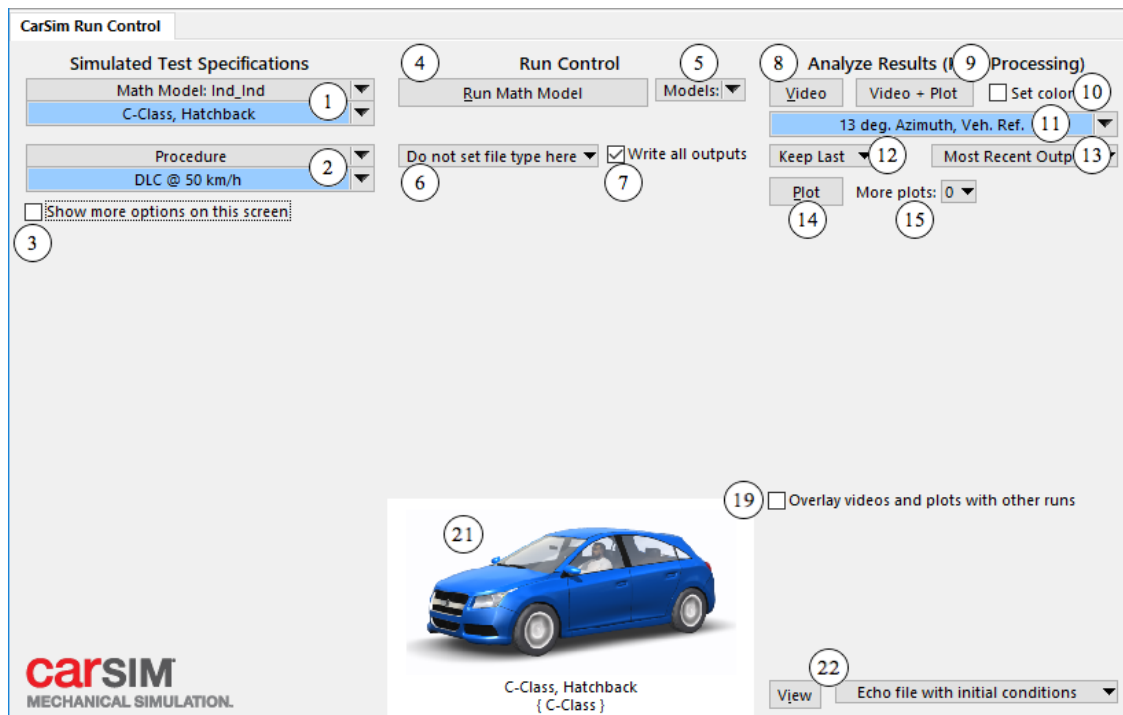
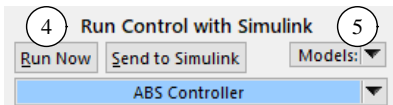

Figure 3. The Run Control screen (simplified view).
Figure 4. Run buttons when working with Simulink.
The **Run Control** screen has several possible appearances depending on the settings you make. Figure 3 shows a typical display with only the basic controls visible.
- ④ Run button(s). The appearance of this part of the screen depends on the type of **Models** link ⑤. There may be multiple buttons, and usually one of them will have the word “Run” in the name. For example, there is a single button **Run Math Model** shown if no link is made (Figure 3). Click it to run the simulated test.
Different buttons might be shown if a **Models** link is made ⑤. For example, Figure 4 shows the buttons displayed when a link is made to a dataset from the **Models: Simulink** library.
If a link is made, the linked dataset appears just under the run buttons (Figure 4). The run buttons are changed as needed to support the **Models** dataset, and the type of model is shown as a title above the run buttons. For example, when no link is made, the title is simply **Run Control** (Figure 3); when a link is made with a **Models: Simulink** dataset, the title is **Run Control with Simulink** (Figure 4).